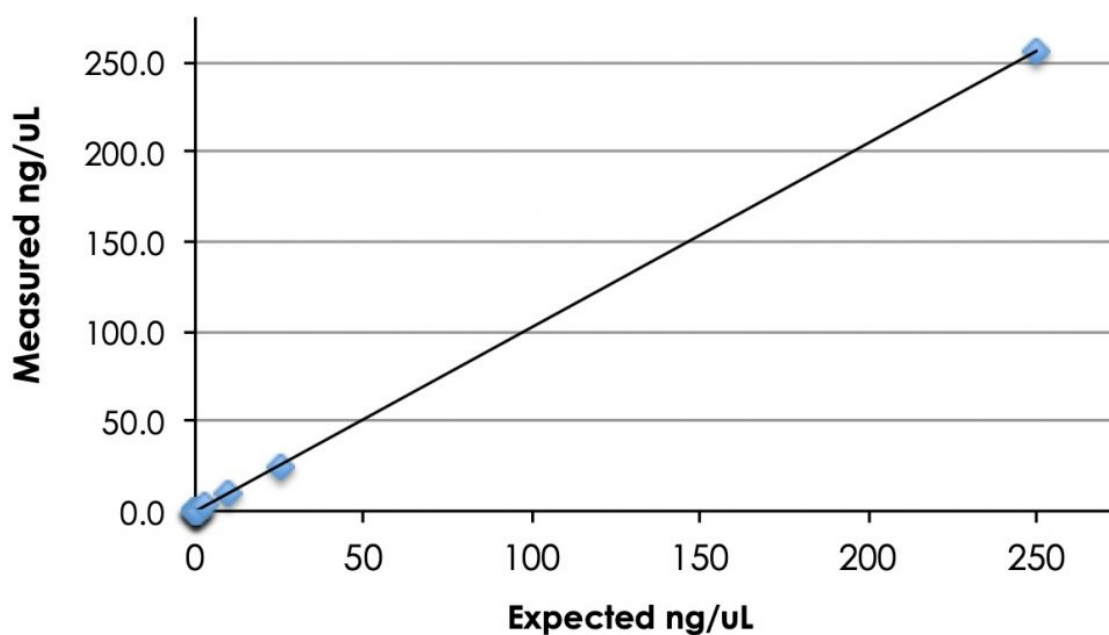

Figure 2: Calf Thymus DNA measured using the DeNovix dsDNA High Sensitivity Assay on a DS-11 FX Fluorometer.
3. Plot the fluorescence RFU values for the DNA standards on the y-axis and ng/well DNA on the x-axis, and fit a trend line (Figure 2) through these points to generate a standard curve with a y-intercept = 0.